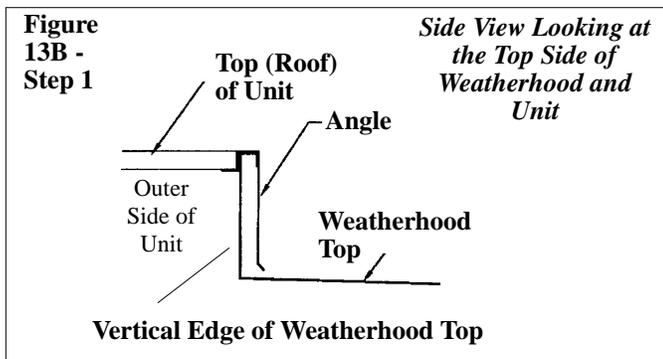
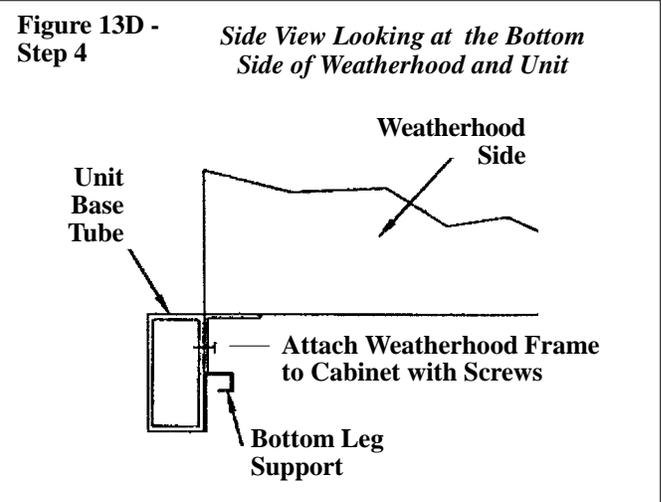

Figure 13B - Step 1
Figure 13D - Step 4
- Slide the vertical edge of the weatherhood top behind the cabinet roof flashing. See Figure 13B. Center the weatherhood in the inlet opening and set in place on the bottom support leg (See Figure 13D).
- Using sheet metal screws, attach the weatherhood frame to the cabinet across the vertical edge of the bottom of the weatherhood. See Figure 13D.